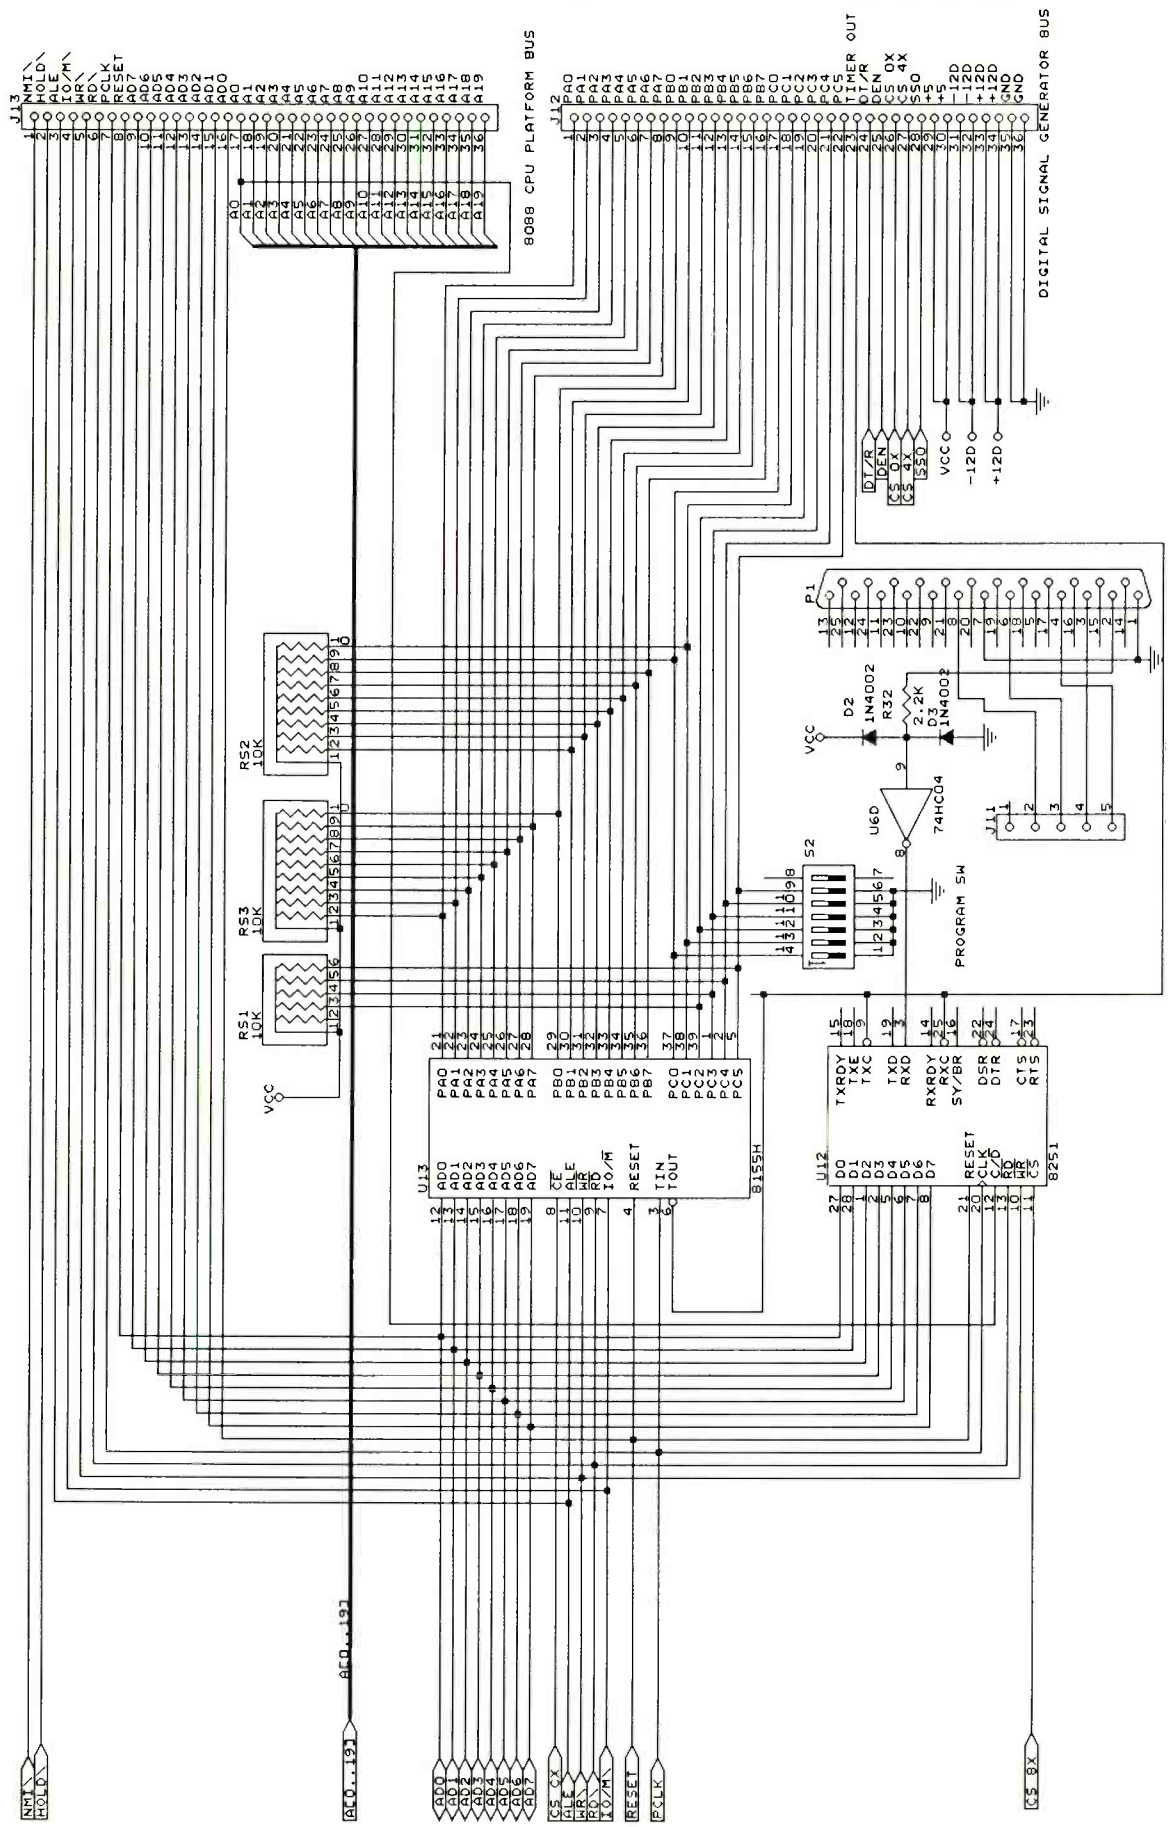

Fig. 2. Complete schematic diagram, minus dc power supply, for Digital Signal Generator add-on.
To generate the digital signal trains in the Digital Signal Generator add-on, an 8088 microprocessor, 8K of RAM, 8K of ROM, an 8155 I/O port/timer and the required support circuits are used. The circuitry for all this is shown schematically in Fig. 2(A) and Fig. 2(B). With this arrangement, digital signal trains are generated by toggling the U13 output port signals. The timer can be programmed to produce a variety of